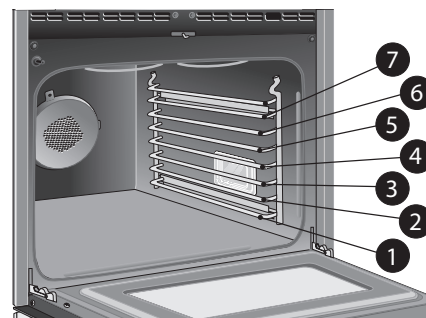
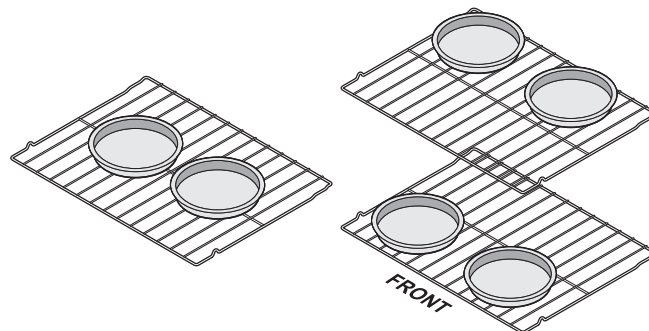

Figure 16: Rack positions
Figure 17: Single rack pan spacing (L), Double spacing (R)
- For best results, single rack baking is recommended. Fully preheat oven. Place food in rack position 3 or in center of oven (Figure 16) using a glide rack and place pans as shown in Figure 17.
- For best results when baking cakes using two oven racks, place bakeware on oven rack positions 2 and 7 (Figure 16) and place pans as shown in Figure 17. Use glide rack in position 2 and a flat rack in position 7.